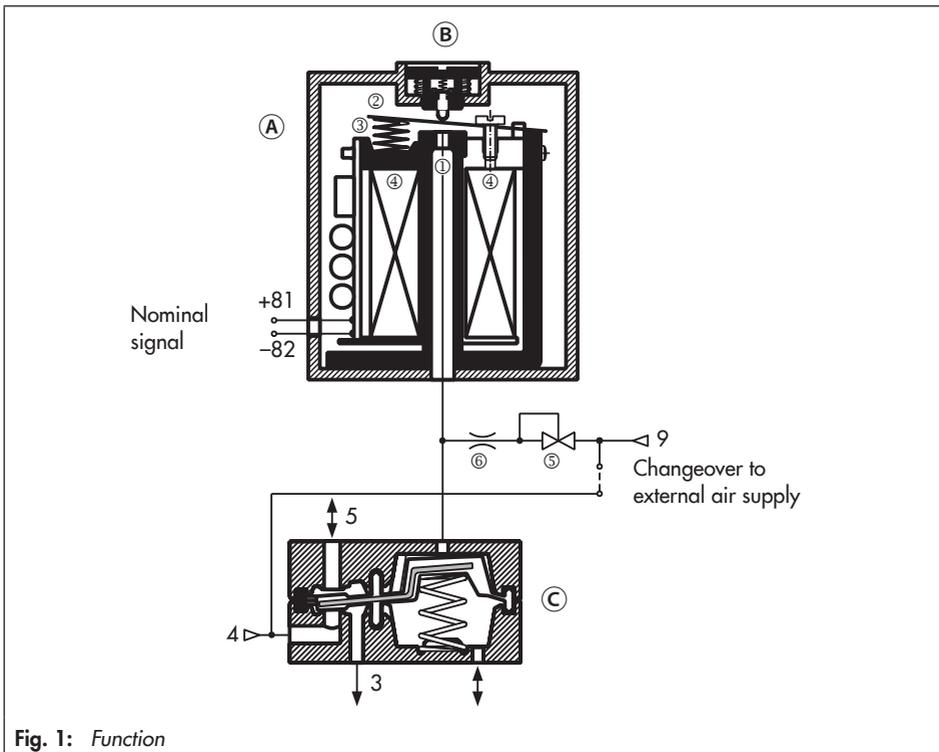

Fig. 1: Function
The solenoid valves consist of an electro-pneumatic binary converter (A) with (optional) manual override (B) and a booster valve (C) actuated on one side with return spring (Fig. 1).